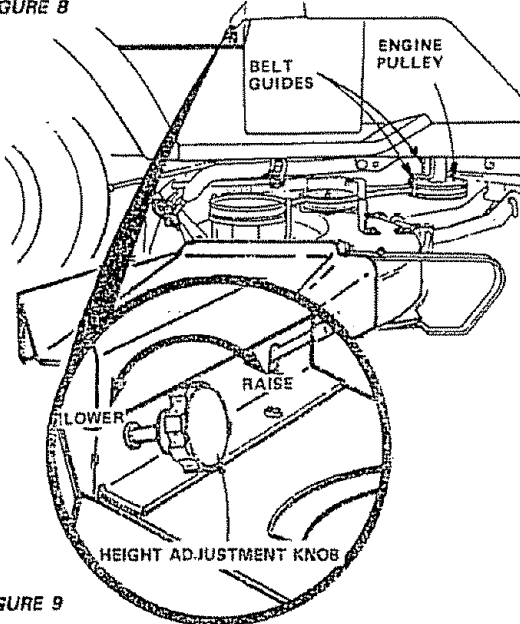

FIGURE 9
Your 38" mower installs without the use of tools. Raise lift lever (Fig. 10) to its highest position. Turn height adjustment knob (Fig. 9) to its lowest position.
- Roll belt over engine pulley. Make sure belt is inside belt guides (Fig. 9). See belt drive schematic decal on mower housing.
- Turn height adjustment knob (Fig. 9) clockwise (↻) to the middle of its travel.
- Turn height adjustment knob (Fig. 9) to lowest position. Move mower lift lever (Fig. 10) forward to lower mower to its lowest position.